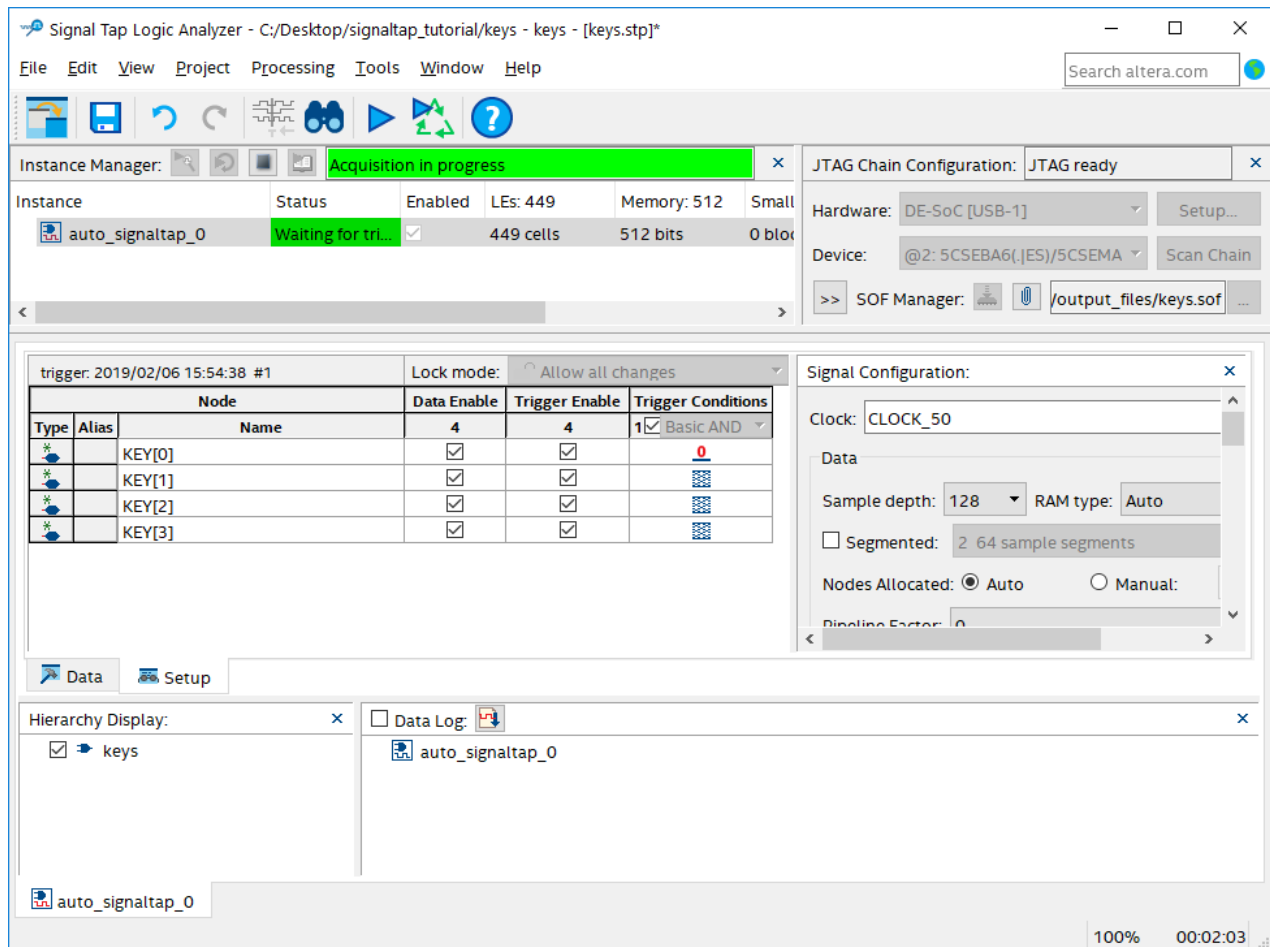

Figure 11. SignalTap window on a DE-series board after Run Analysis has been clicked.
1. On the DE-series board, first ensure that none of the keys (0-3) is being pressed. We will try to probe the values of these keys once key 0 is pressed.
2. In the SignalTap window, select **Processing > Run Analysis** or click the  icon. You should get a screen similar to Figure 11. Note that the status column of the SignalTap Instance Manager pane says "Waiting for trigger." This is because the trigger condition (Key 0 being low) has not yet been met.